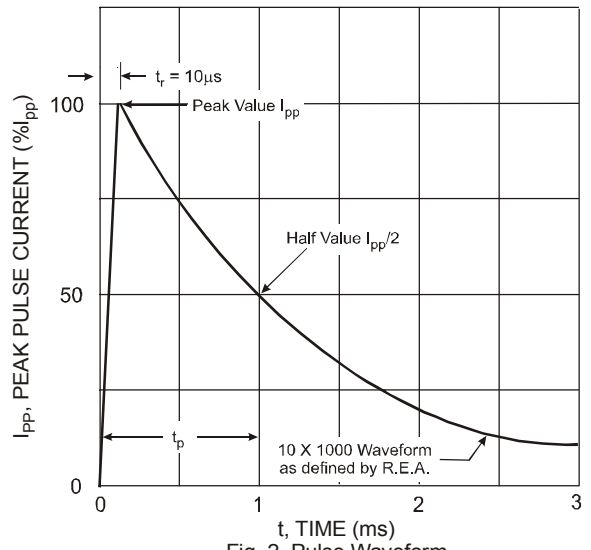

Fig. 2 Pulse Waveform
- Non-repetitive current pulse per Figure 2 and derate above TA = +25°C per Figure 2.